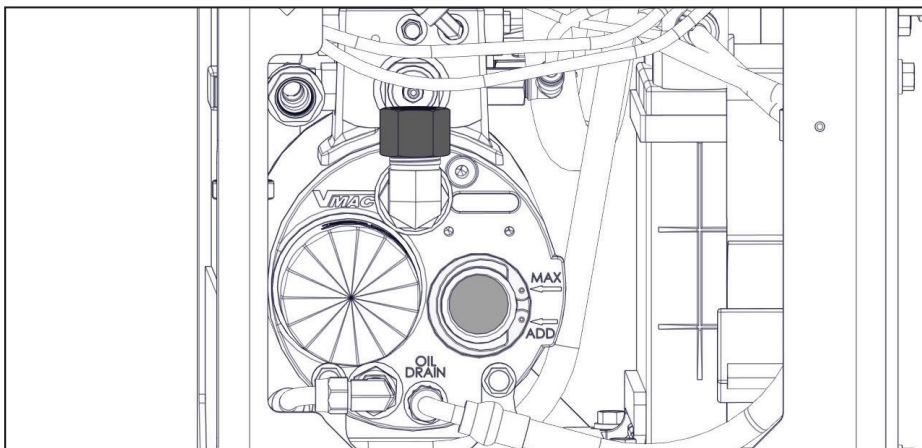

Figure 36 — Compressor oil fill
- Remove the filler cap on the WHASP Tank. Fill the WHASP Tank with VMAC compressor oil until it reaches the "MAX" mark. The air compressor system holds approximately 4 L (1 USG) of oil (Figure 36).